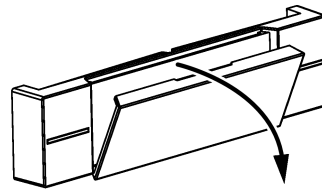

Figure 11: Remove the labelling field cover
- Pull on one side at the notch in the cover of the labelling field to separate from the rocker (see figure 11).